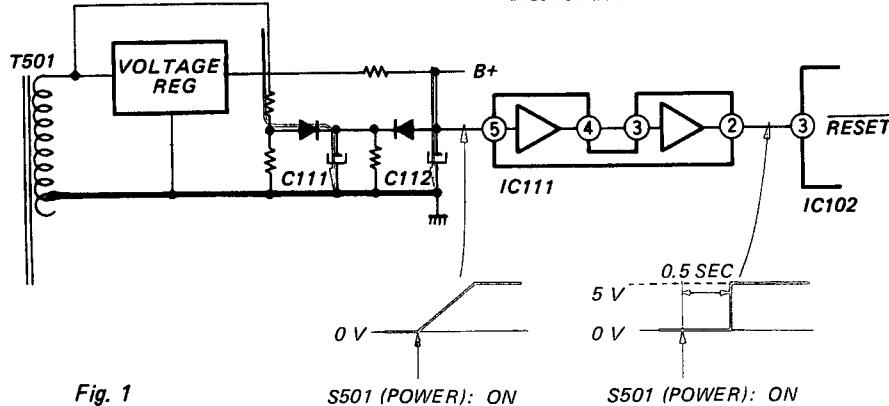

Fig. 1
1.4.1. When the POWER Switch is turned on (see Fig. 1):